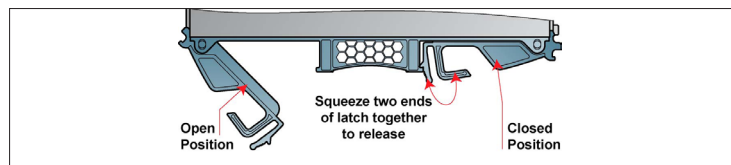

Figure 8: Module Latch Operation
2. With the latches in the open position (see Figure 8), slide the RAID Controller module into the enclosure until the latches engage automatically (Figure 9).